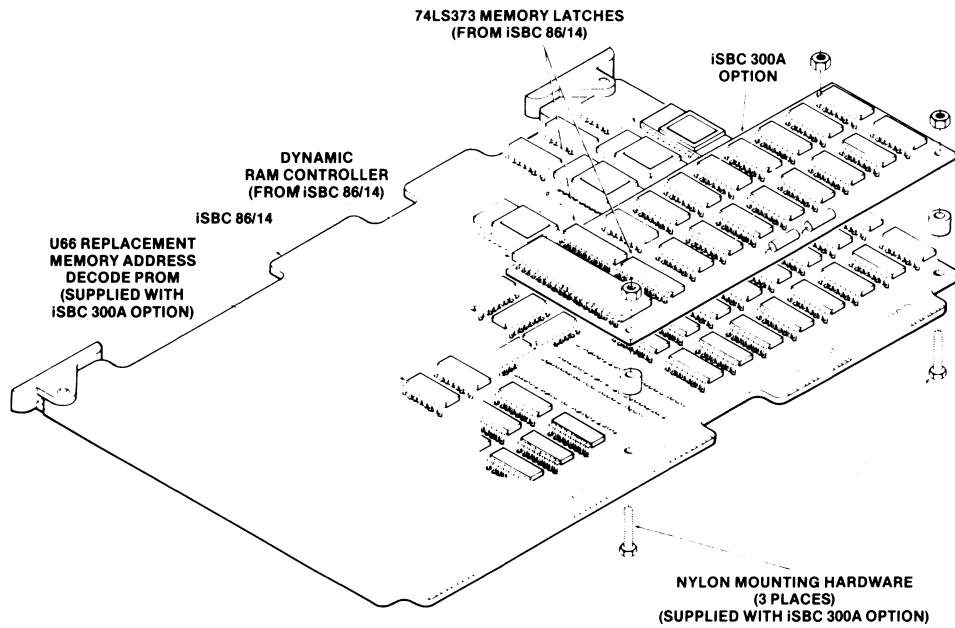

Figure A-1. iSBC™ 300A RAM Expansion Multimodule Board Orientation
6. Insert the iSBC 300A board mating pins into socket U72 and other mating pins, orienting the board as shown in figure A-1.
8. Place nylon spacer between the iSBC 86/14 board and the iSBC 300A board at one of the holes shown in Figure A-1.